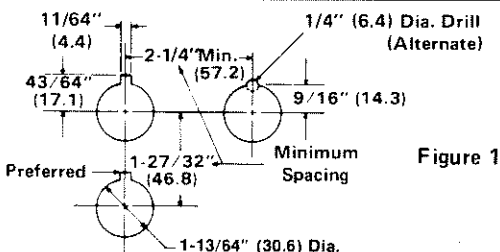

Figure 1
1. Place the unit (less mushroom head, mounting ring, thrust washer, legend plate) with proper number of gaskets per Figure 1 on mounting hole.